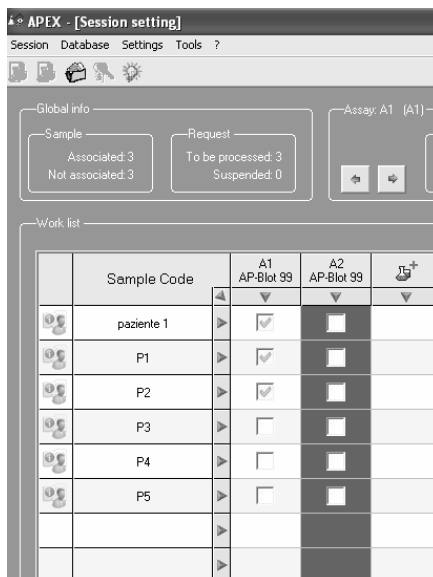

fig. 44
- The first concerns **associating more than one patient to the same Assay** (a multiple selection of patient codes as shown in Fig.44): click on (down) arrow at the top of the column under the Assay Short name required, to select the whole column (when selected it appears in a darker blue).